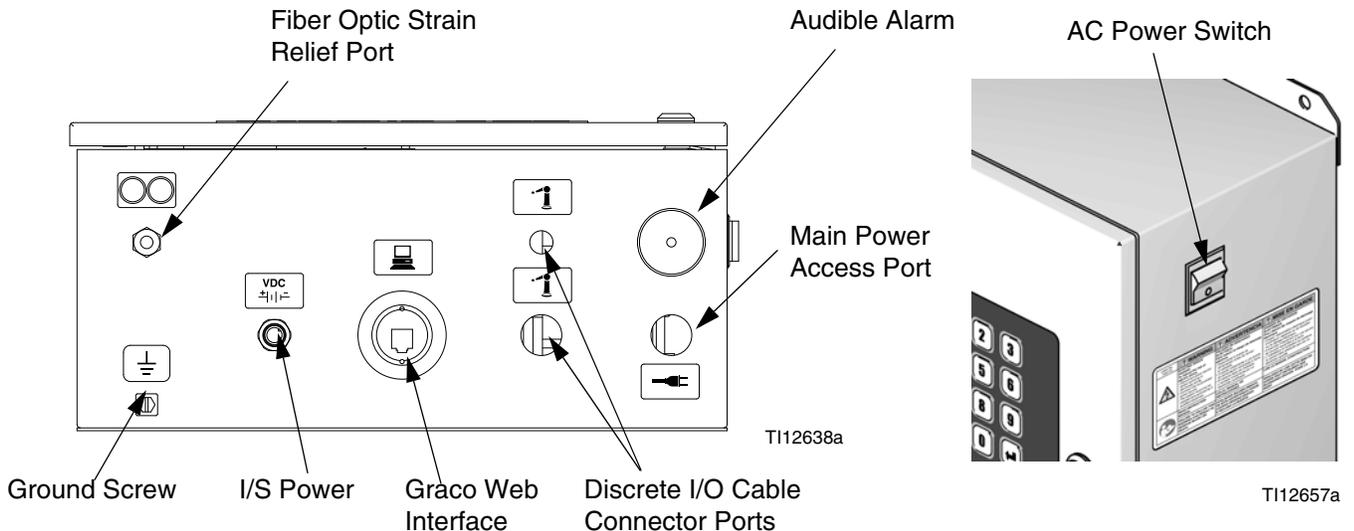

FIG. 13. EasyKey Connections and AC Power Switch
- The input power access port is 22.4 mm (0.88 in.) diameter. It accepts a bulkhead strain relief fitting or conduit. See FIG. 13.
1. Provide power to the EasyKey. Install a bulkhead strain relief or conduit bulkhead through the EasyKey port . See FIG. 13.
1. Connect the appropriate Fluid Station Power Cable end to the EasyKey connector . See FIG. 13.
3. The Fiber Optic Cable is shipped from the factory attached to the Fluid Station connector . See FIG. 13.